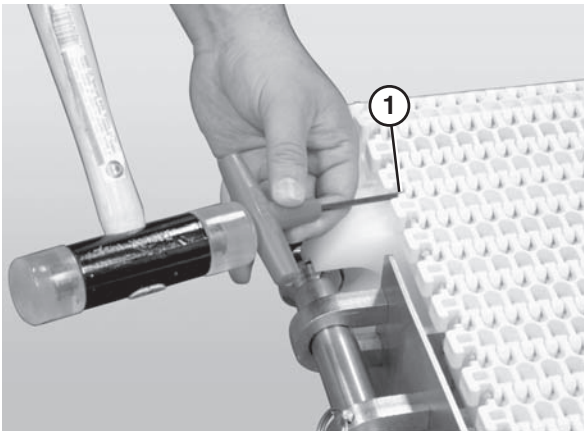

Figure 62
2. Use a punch and hammer to push the belt rod out by striking the rod end opposite the retaining head (Figure 62, item 1).